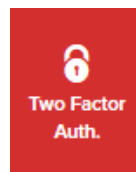

Figure 10. Partner Portal (Two Factor Auth. icon)
4. Click the **Two Factor Auth.** link on the left-hand side of the web page (Figure 10 \(page 50\)).